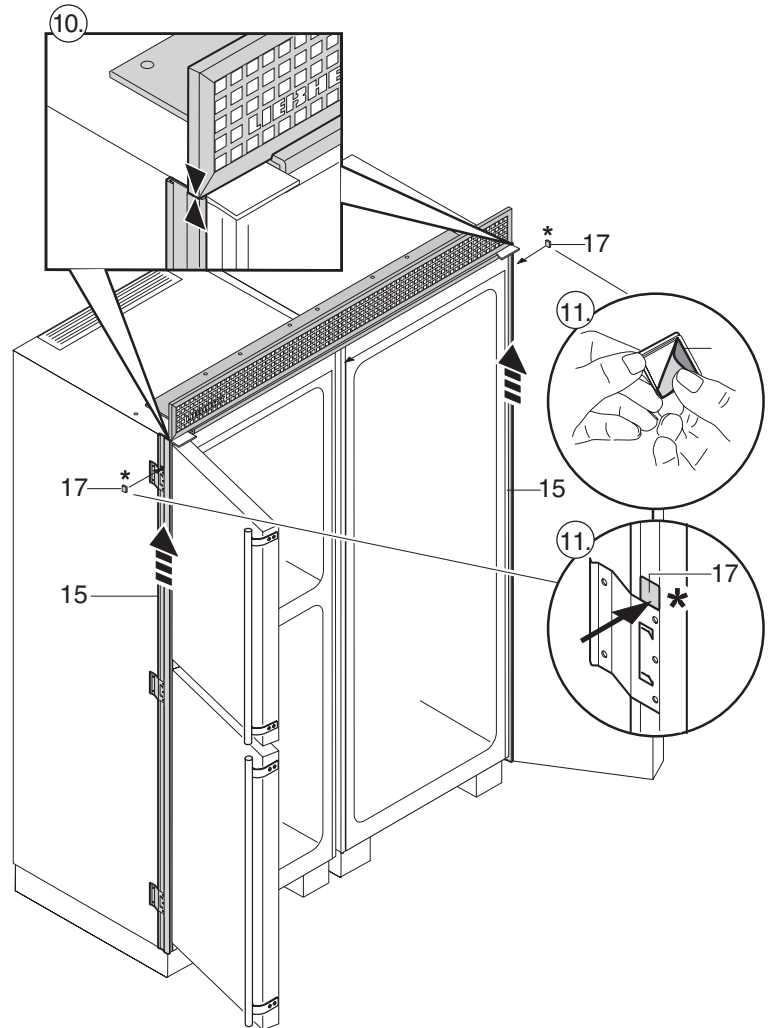
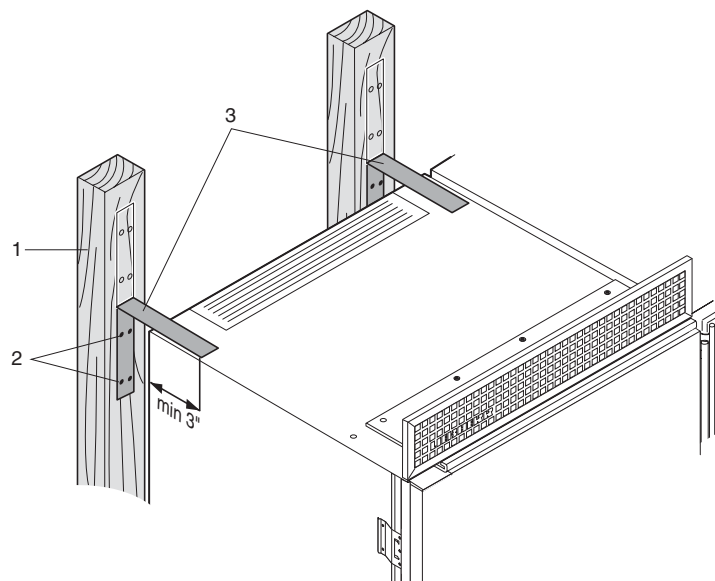

Figure 28
Figure 29
10. **Figure 28:** Slide the side installation frames (15) upward until they are in contact with the underside of the ventilation grille, **Figure 28**.
11. Secure the side frames with the adhesive section (17) to prevent them from sliding down. Remove the protective film and place the adhesive sections over the upper brackets.
12. **Figure 29:** Install anti-tip brackets for each appliance. Refer to “Blocking For Safety.”